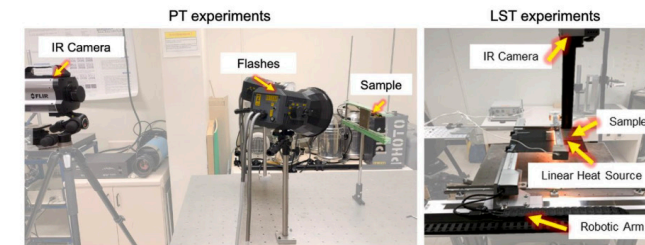

Fig. 1. Experimental setups of pulsed thermography (PT) and linear scanning thermography (LST).
In this study, the multi-source systems are divided into three parts, including pulsed thermography (PT), linear scanning thermography (LST), and terahertz time-domain spectroscopy (THz-TDS) [31–33]. Fig. 1 shows the PT experimental setup in the reflection mode. A cooled infrared camera (FLIR X8501sc, 3–5 µm, InSb, NEdT <20 mK, 1280 × 1024 pixels) and two xenon flashes (Balcar, 6.4 kJ for each, 2 ms) are used.